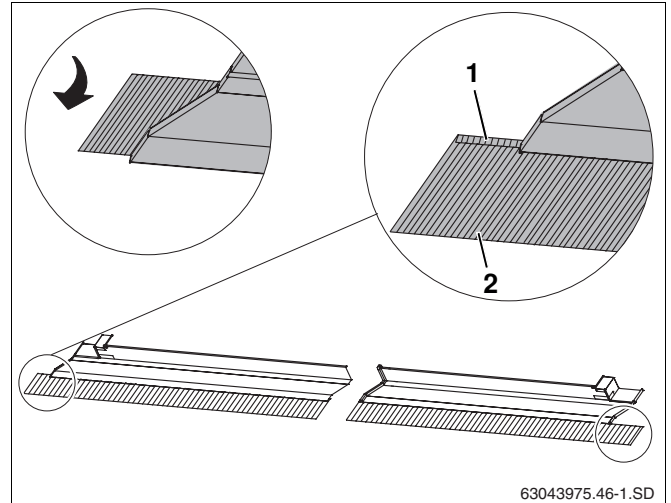

Fig. 43 Laying flashing
- Bend flashing for all facing collectors towards the front (Fig. 43, **Item 2**).
- Likewise, lay the ends of the upper outer facing collectors (Fig. 43, **Item 1**) towards the front.